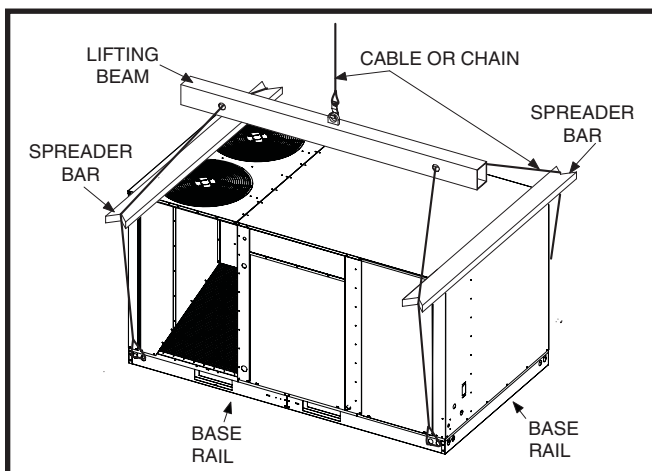

Figure 5. Rigging and Hoisting
- The unit must be lifted from the holes in the base rails using cables or chains as shown in Figure 5.
- Spreader bars (Figure 5) are required to protect the unit and ensure even loading.